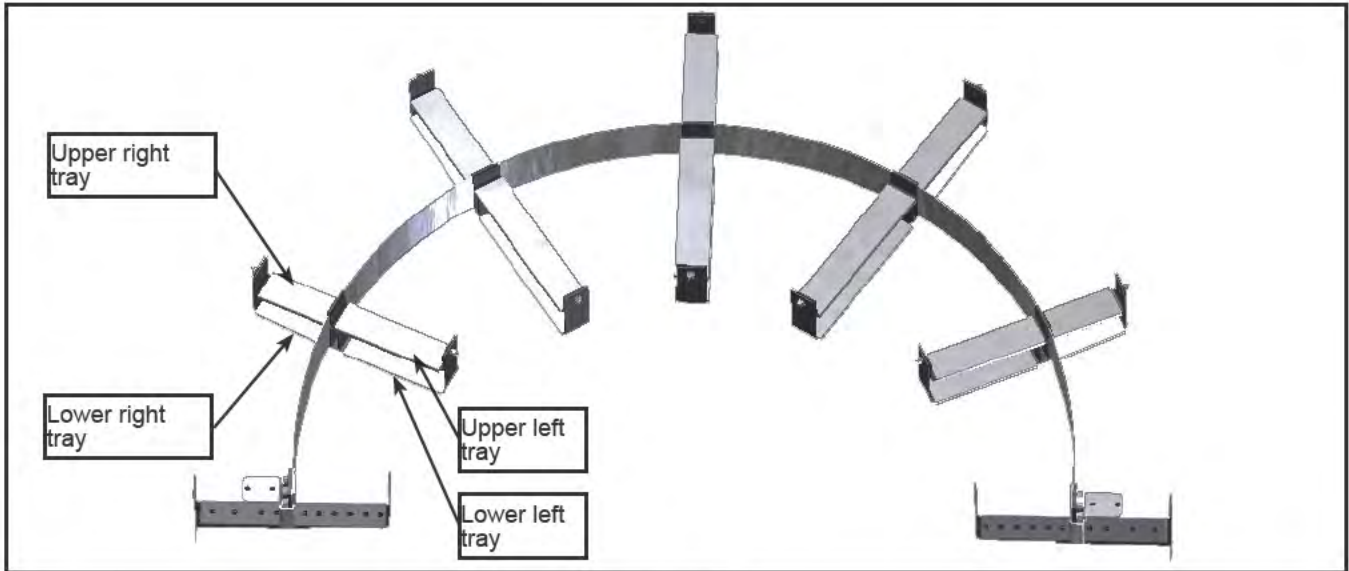

Figure 2 - EGS Trays
- 1.2. Push back the red protective boots and remove the 24-volt and HVAC power cables routed in the upper left trays. See Figures 2 and 3 (some parts removed for clarity).